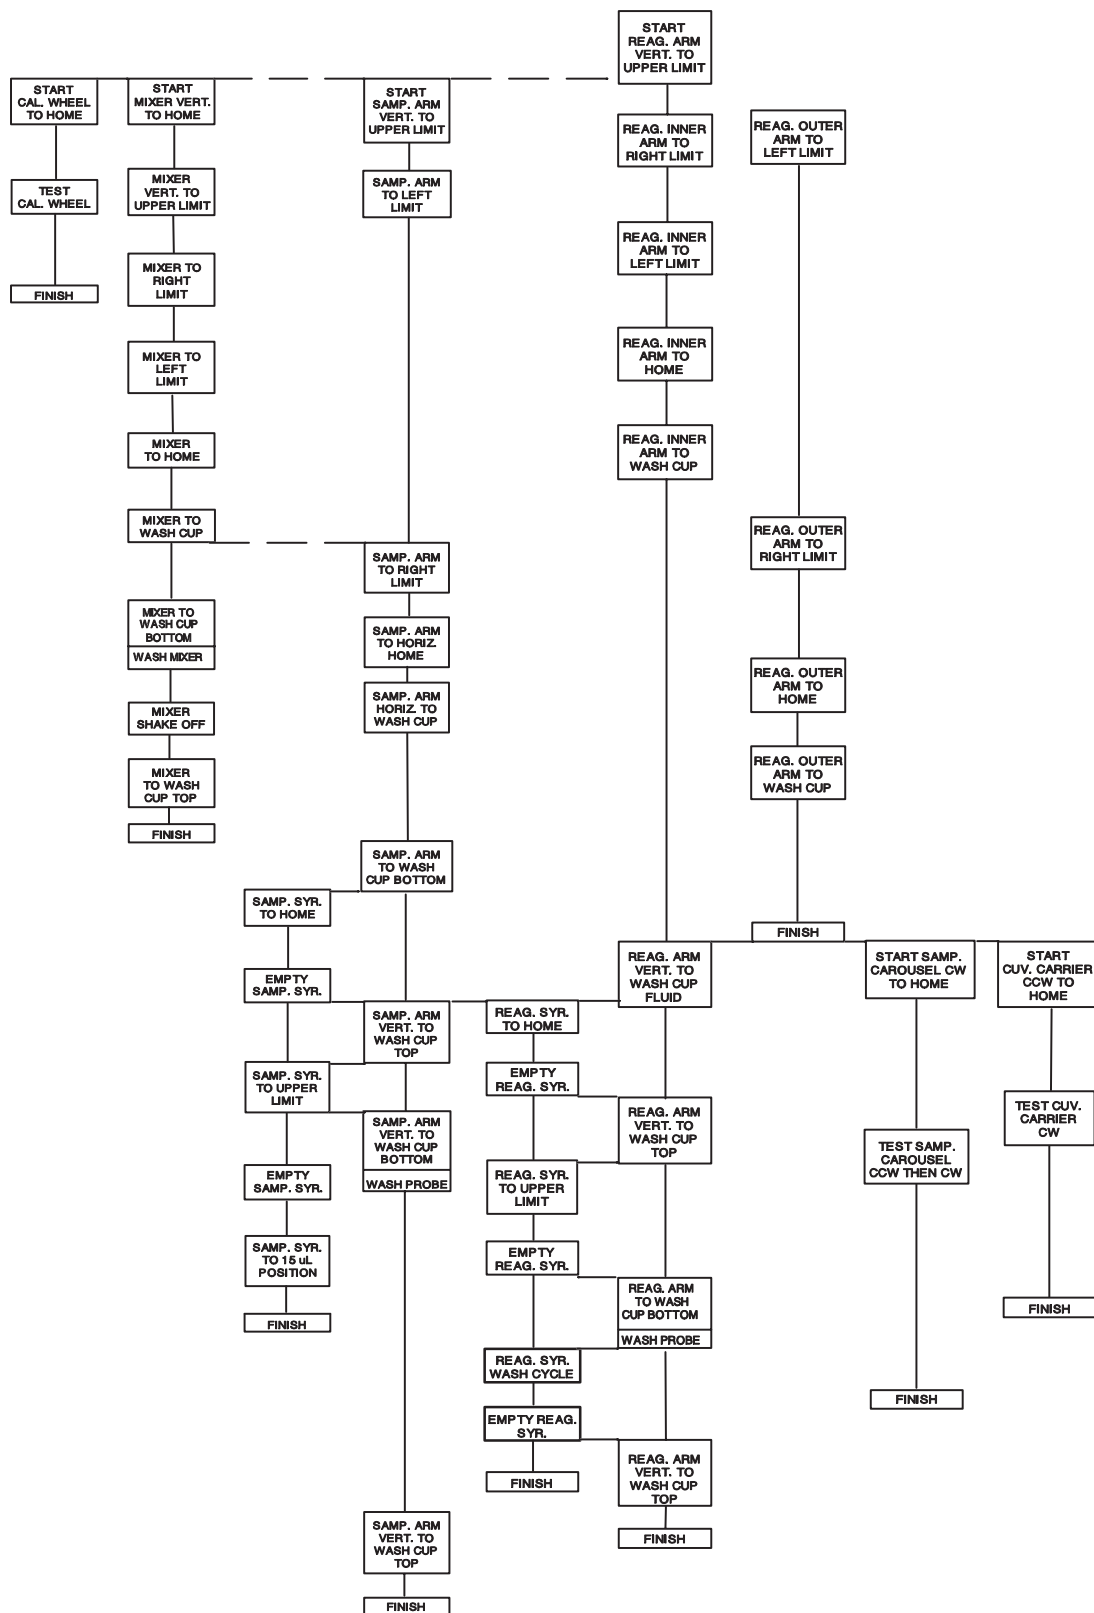

Figure 4.2 Robotics Homing Sequence
**Figure 4.2** is a robotics homing sequence diagram. The dotted lines indicate that the following activities cannot occur until all actions on the same line have been completed. This diagram may be useful when troubleshooting robotics aborts.